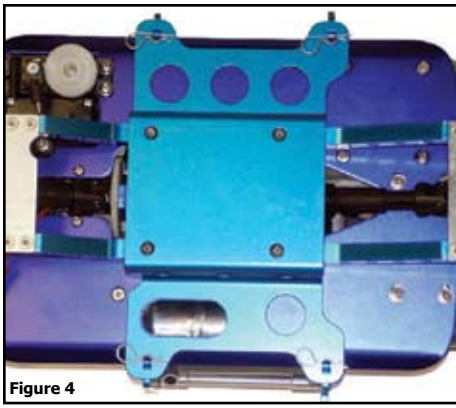

Figure 4
7. Attach the *Belly Pan* with *M3x8 BHMS* and *Body Clips* as shown in *Figure 4*.